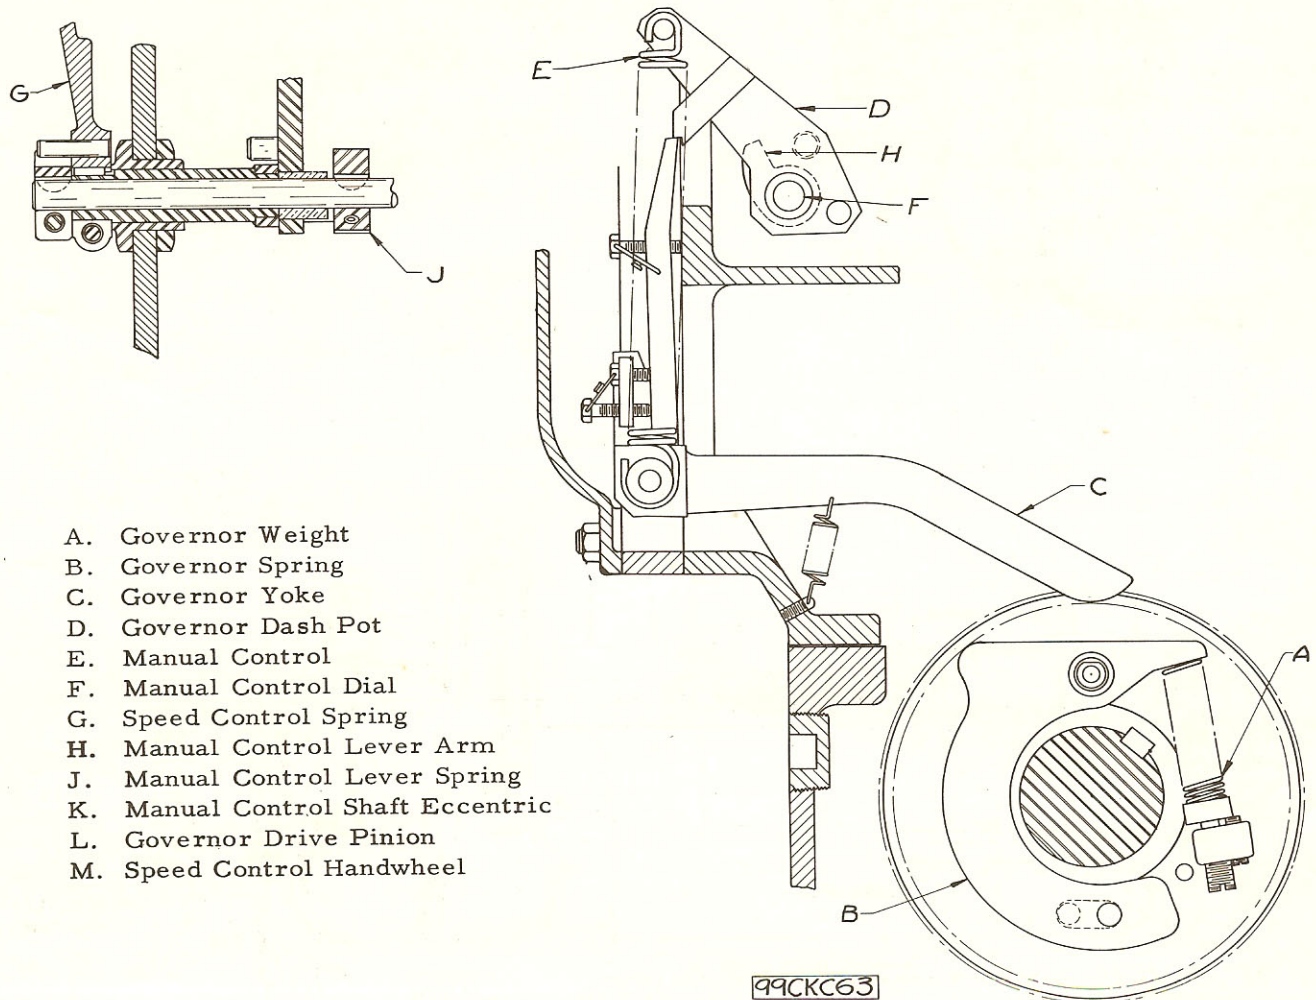

Fig. 10. Overspeed Governor
The overspeed governor weight spring (A) is set to allow weight (B) to disengage lever (C) from the trip lever (D). See Fig. 10. The spring (E) pulls the lever (D) down, and a pin engages the shutoff arm (J) which cuts off the supply of fuel to the injection pumps. Before starting the engine again after the overspeed governor has been tripped, the reset handle (G) must be pushed back as far as it will go, which engages dog (H) against the pin on the trip lever (D), thereby returning the trip lever to its normal operating position with the stop lever (C). After the overspeed governor has been reset as described above, the engine can be started in the usual manner.